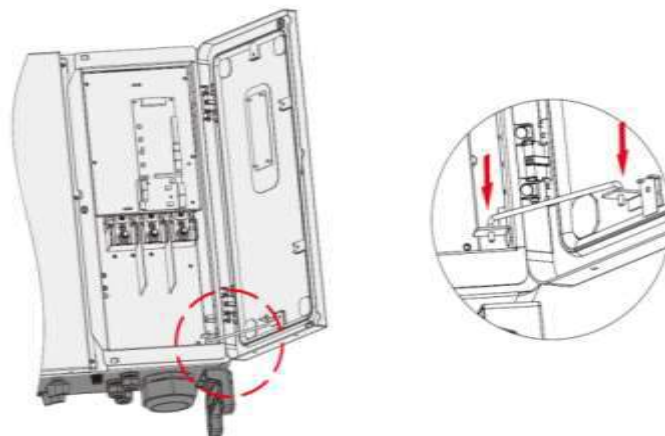

Fig. 4-26 Limit lever
- 3) Keep the wiring compartment opened during wiring through the limit lever attached to the cover (Fig. 4-26).